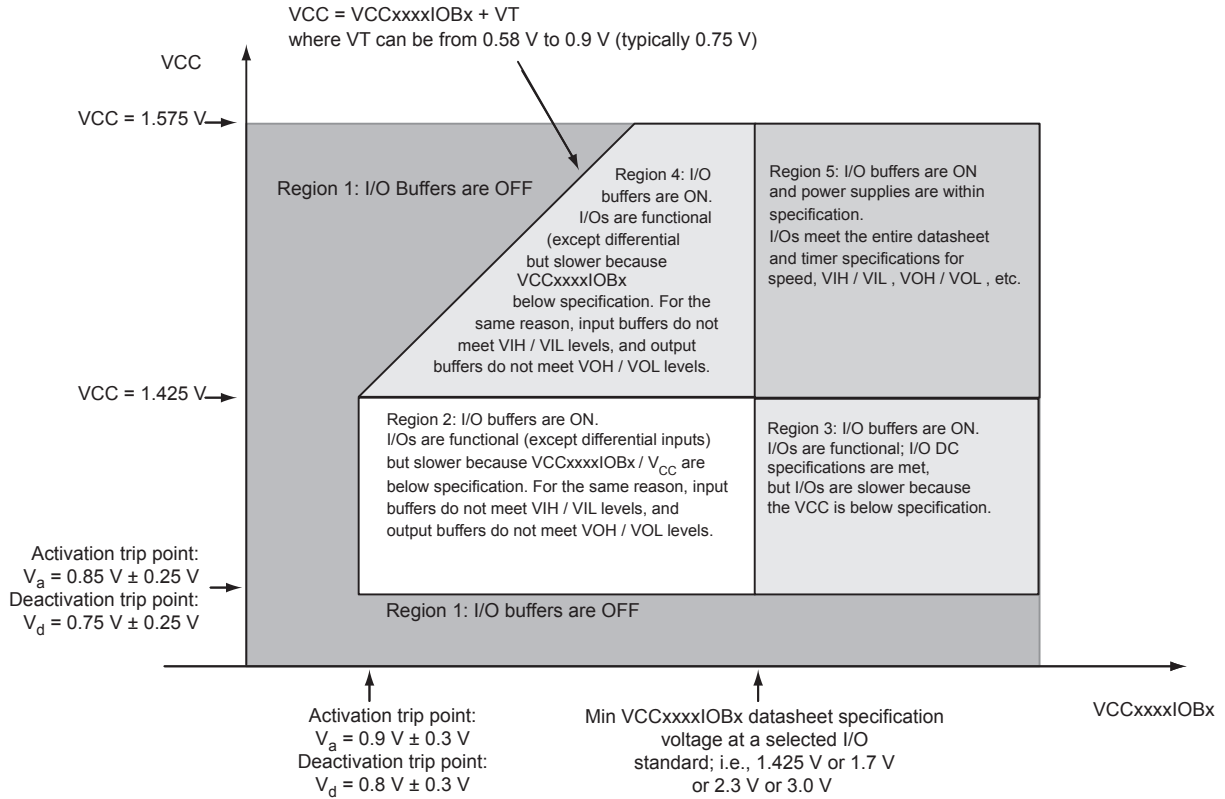

Figure 2-2 • I/O State as a Function of $V_{CCxxxxIOBx}$ and VCC Voltage Levels
Sophisticated power-up management circuitry is designed into every SmartFusion cSoC. These circuits ensure easy transition from the powered-off state to the powered-up state of the device. In addition, the I/O will be in a known state through the power-up sequence. The basic principle is shown in Figure 2-2 on page 2-6.
1. VCC and VCCxxxxIOBx are above the minimum specified trip points (Figure 2-2 on page 2-6).
The Microsemi SoC Products Group recommends using monotonic power supplies or voltage regulators to ensure proper power-up behavior. Power ramp-up should be monotonic at least until VCC and VCCPLLx exceed brownout activation levels. The VCC activation level is specified as 1.1 V worst-case (see Figure 2-2 on page 2-6 for more details).